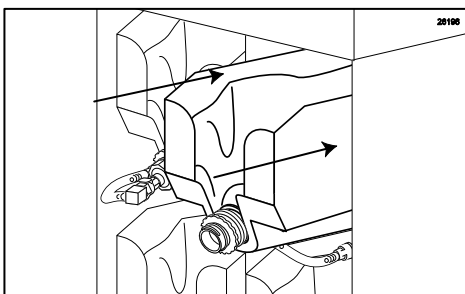

Figure 159
8. Make sure the syrup bag is settled neatly into the tray, and then install the loaded tray into the cabinet. (See Figure 159.)